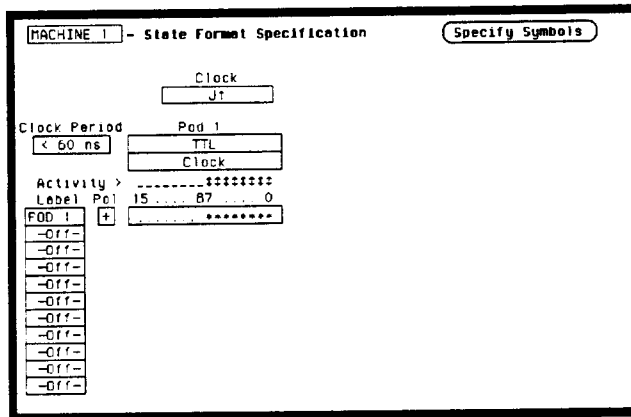

Figure 3-13. Format Specification for Data Test 2
- In the **State Format Specification** assign the **Clock Period** to **< 60 ns**, and assign the rising edge of the J clock to the **Clock** field. Also, assign the lower 8 channels of the pod under test to a label as in figure 3-13.
- In the **State Format Specification** menu assign the **Clock Period** to **< 60 ns**, and the falling edge of J clock to the **Clock** field. Also, assign the lower 8 channels of the pod under test to a label as in the previous test figure 3-13.
4. In the **State Format Specification** assign the **Clock Period** to **< 60 ns**, and the rising edge of the J clock to the **Clock** field. Also, assign the lower 8 channels of the pod under test to a label as in the previous figure 3-13.